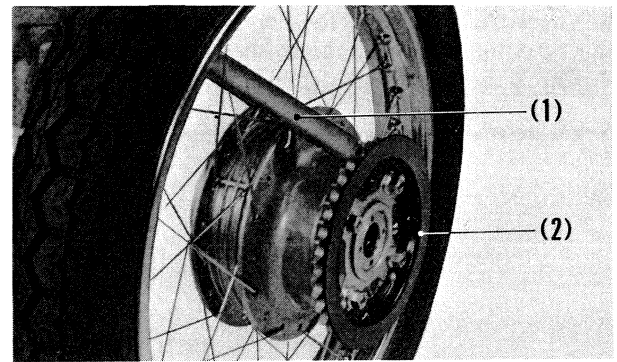

Fig. 5-38 (1) Wood block
- Remove the 69 mm snap ring and remove the final driven sprocket as shown in Fig. 5-38.